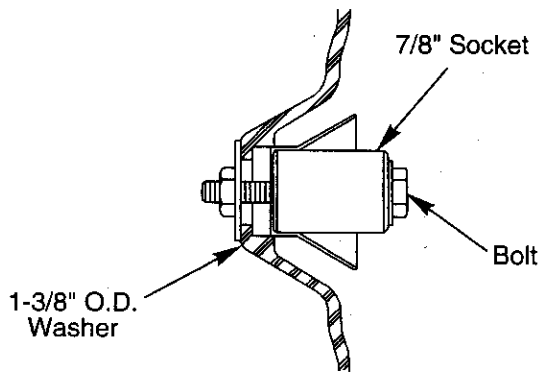

Figure 16
- C. Pull insert into cavity as shown in Figure 16.